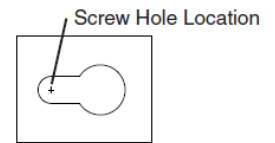

Figure 3
6. **Position the Fixture Housing (1) against** the mounting surface and with a pencil, mark the screw hole locations to be located at the narrow section of the keyholes. **See Fig. 3.**